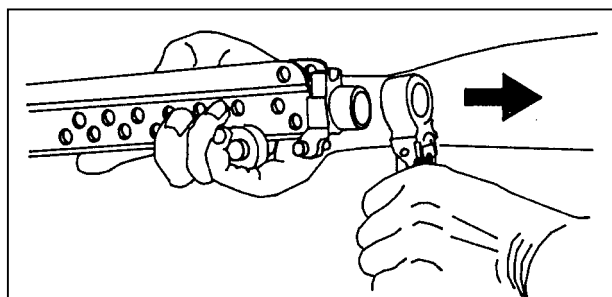

Figure 1-18. Removal of the bipod group.
g. **Removing the Bipod Group.** Once the gas cylinder group is removed, remove the bipod group (Figure 1-18) by pulling it away from the receiver.
a. **Replacing the Receiver Group and Bipod Group.** Place the bipod group on the receiver group with the bipod legs open and pointed downward. (See Figure 1-18.)